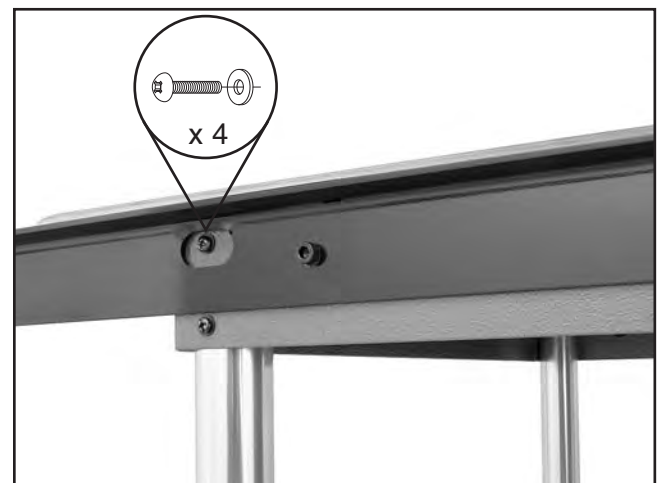

Figure 20. Support leg fastened to main extension table.
9. Fasten each support leg to the main extension table with four M6-1 x 12 Phillips head screws and 6mm flat washers, as shown in **Figure 20**.